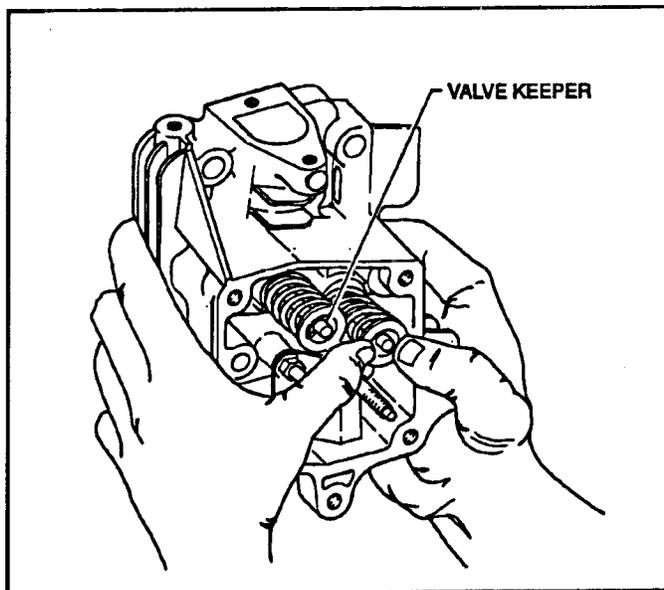

Figure 58
3. The spring rate on the valve springs allows removal without the aid of a spring compressor. Remove the springs and keepers as shown in Figure 58. The intake and exhaust springs and keepers are the same and can be used on either valve.